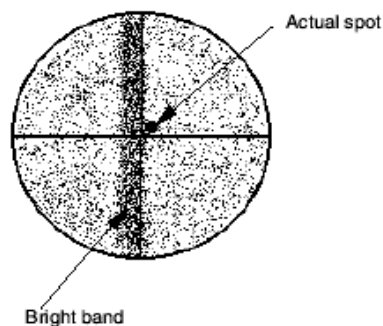

Figure 5: Microscope view with rotating mirror, M_R on.
- Once the mirror begins to rotate, it is safe to look into the microscope without the polarizers. You will notice that your carefully aligned pattern has changed: now the entire field is covered with a random interference pattern, and there is a bright band down the center of the field (Figure 5). Ignore the interference pattern; there's nothing you can do about it anyway. The band is the image of the laser when, once each rotation, the mirror reflects it into the microscope beamsplitter. This is also unavoidable.